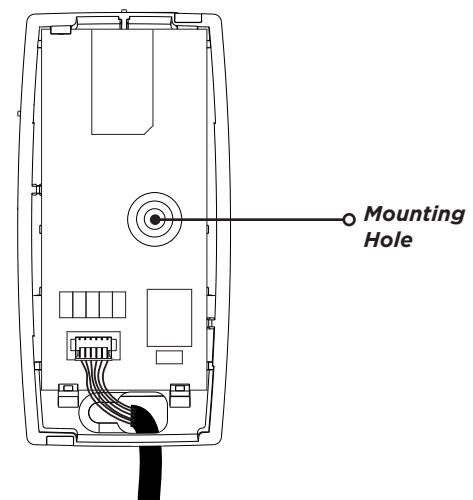

Figure 4: Mount the 763
2. Use the supplied screw to secure the base to a surface. See Figure 4.